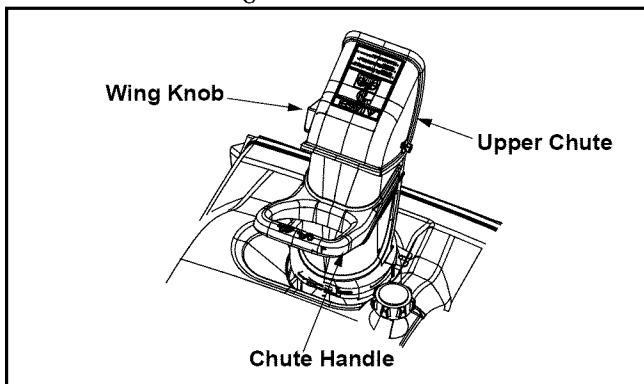

Figure 4
- Position the discharge chute opening by using the Chute Handle to throw the snow in the desired direction. See Figure 4.